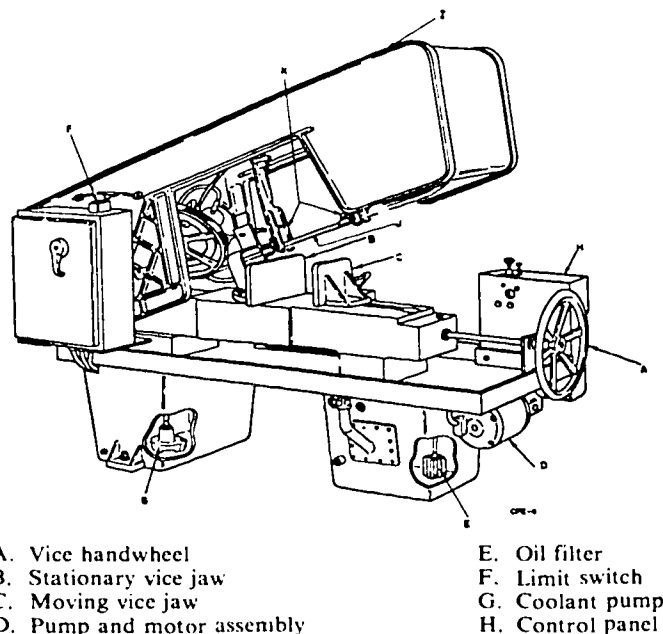

Figure 1-14. Power cutoff saw.
**Cutoff Bandsaw.** The cutoff bandsaw illustrated in figure 1-14 is used to cut the same type of material as the power hacksaw.
To make a cut, with a cutoff saw like the one illustrated in figure 1-14, raise the blade and secure material between the vise jaws (fig. 1-14,B, and C) by turning the vise handwheel so as to apply pressure on the jaws. Start the saw and adjust the raise and lower handle to bring the blade down slowly until it starts to cut. Adjust the feed pressure control if necessary for the proper cutting speed for the job. As with the power hacksaw, angle cuts can be made by changing the position of the vise jaws. This type of saw is operated by hydraulic pressure supplied by the motor and pump assembly (fig 1-14,D). Hydraulic pressure powers the hydraulic cylinder used to raise and lower the cutting blade and apply feed pressure. When the cut is complete the limit switch should turn the machine off automatically. Remove the cut material from the saw and clean the saw and area.